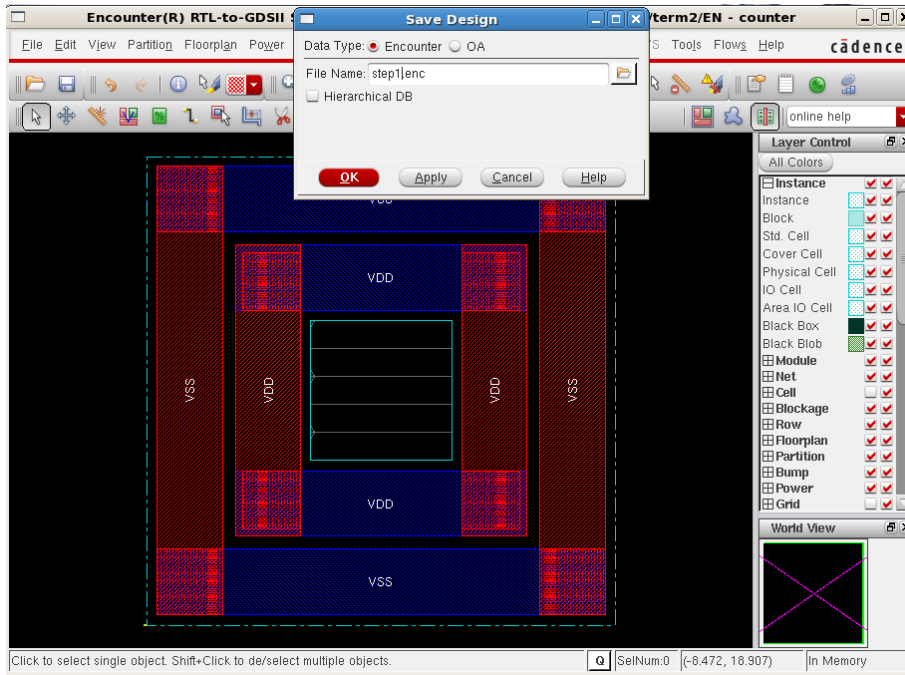

Figure 6 Save Design
7. The layout should be the same as shown in Figure 6. It is time to save the work thus far. **File**→**SaveDesign**, check **Encounter** and call it **step1.enc**